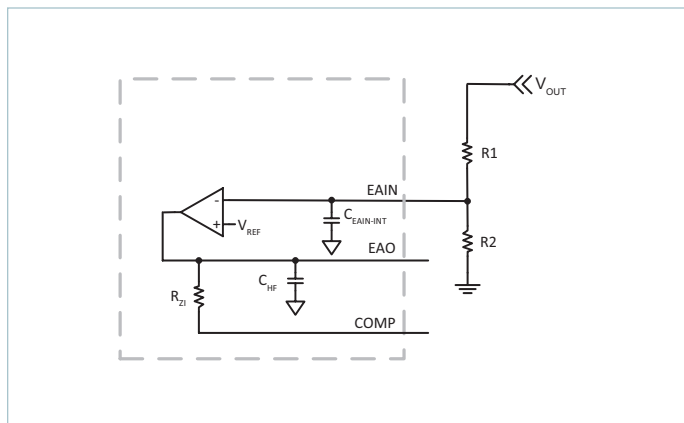

Figure 58 — External resistor divider network
The PI352x-00 family of Buck Regulators utilizes V_{REF} , an internal reference for regulating the output voltage. The output voltage setting is accomplished using external resistors as shown in Figure 58. Select R2 to be at or around 1k Ω for best noise immunity. Use Equations (2) and (3) to determine the proper value based on the desired output voltage.